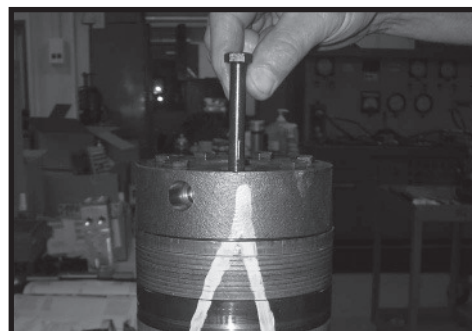

Figure 66
23. Assemble the 5, 6 or 7 special bolts (1, 1A, 1B or 1C) and screw in finger tight. Remove and replace the two alignment studs with bolts after the other bolts are in place. Alternately and progressively tighten the bolts to pull the end cover and other components into place with a final torque of 25-30 ft. lbs. (34-41 N m) for the five TC, TS, TB or six TE Series 5/16 24 threaded bolts or six TJ bolts or 50-55 ft. lbs. (68-75 N m) for the seven TF, TL, TG & TH Series 3/8-24 threaded bolts. SEE FIGURE 66, 67, 68.